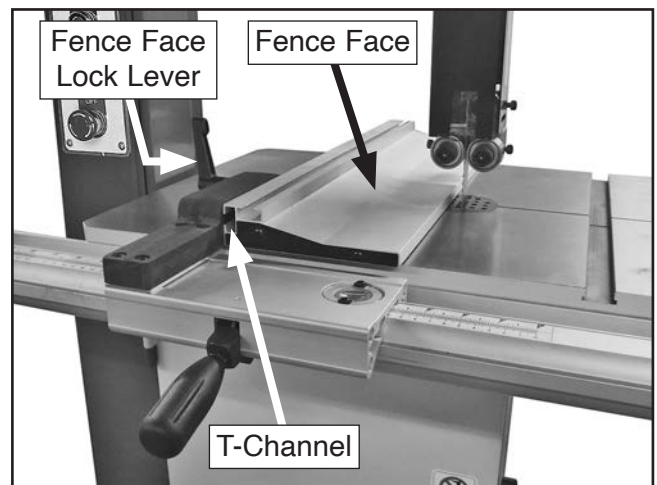

Figure 35. Fence installed in horizontal position.
- For *thin* workpieces, mount fence in horizontal position, as shown in **Figure 35**, then rotate fence base lock lever to secure.